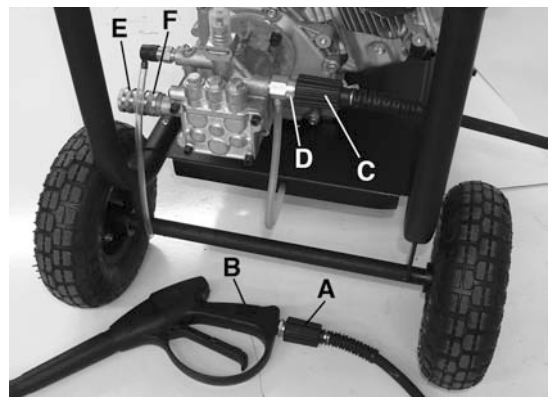

Figure 4
Next install the hose (A) Fig.4 to the wand (B) and install the other end of the hose (C) to the pump outlet (D) as shown. It is recommended to install Teflon tape on the threads to prevent water leakage.
Install the quick connect coupling (E) Fig.4 to the water hose inlet (F). It is recommended to install Teflon tape on the threads of the hose inlet to prevent water leakage.